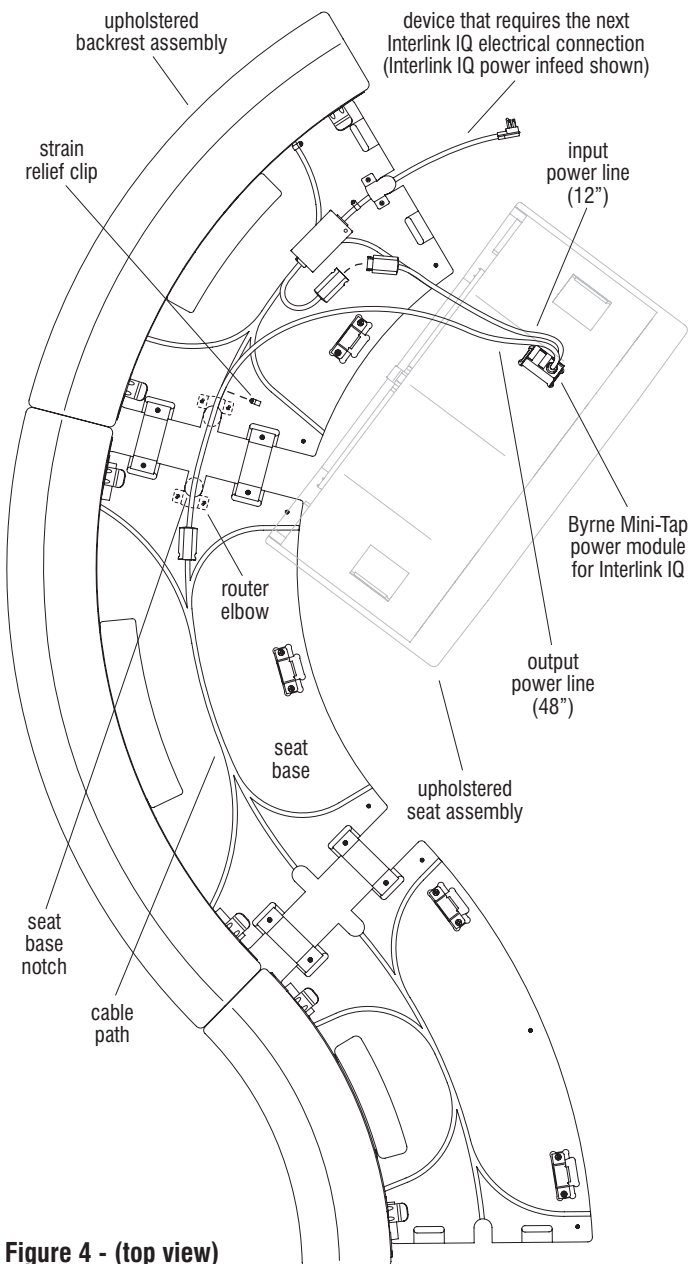

Figure 4 - (top view)
1. Move the upholstered seat assembly close to the corresponding upholstered backrest assembly that requires the next Interlink IQ electrical connection (Figure 4).
2. Identify the input (12") and output power line (48") on the Byrne Mini-Tap power module for Interlink IQ inside the upholstered seat assembly. Plug the male end of the input power line with the female end of the device that requires the next Interlink IQ electrical connection (Interlink IQ power infeed, Interlink IQ power jumper or Byrne Mini-Tap power module for Interlink IQ) (Figure 4 & Detail G).
3. Route the output power line (48") to the nearest cable path on the seat base. If the next electrical connection involves the next lounge unit in the configuration, route the output power line out the seat base notch to the next lounge. Reference "Routing Cables Between Lounges" Instructions on page 14 for details (Figure 4).